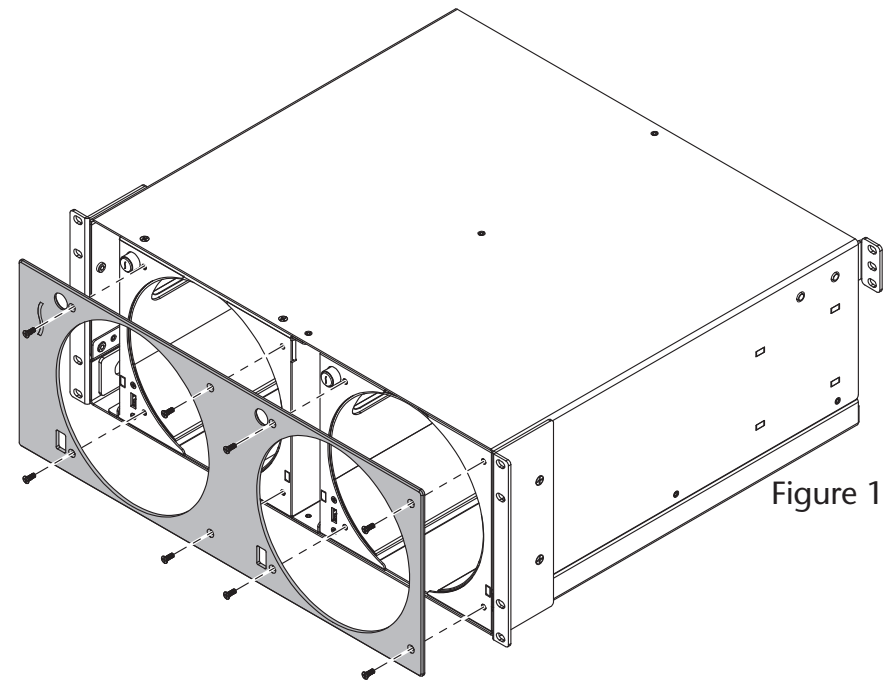

Figure 1
2. Using a Phillips screwdriver, remove and set aside the eight screws securing the front panel to the rackmount enclosure, being careful to prevent the front panel from falling off (**Figure 1**). Set aside the front panel and screws.